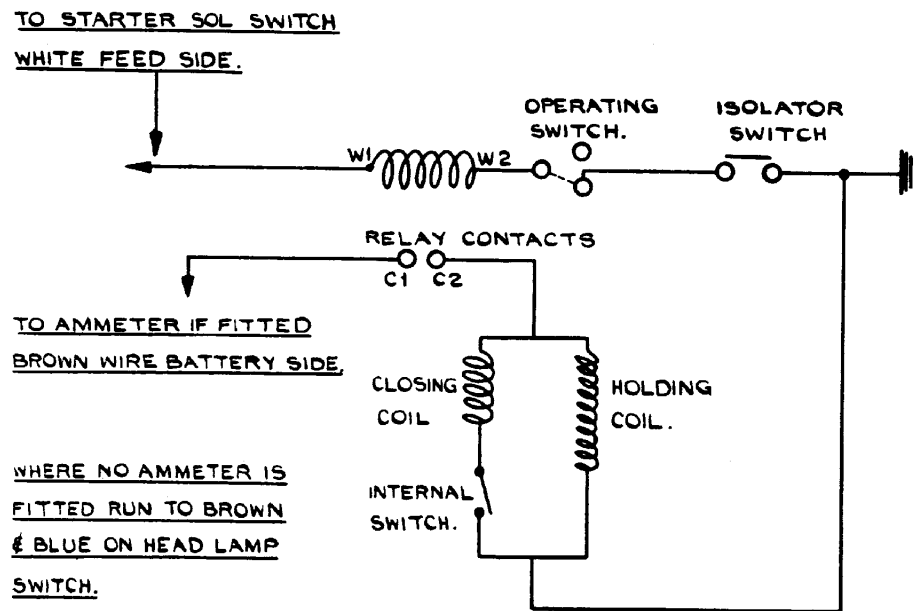

Fig. 5
(iv) Fault Locating. (See Fig. 5)
- (a) A dangerous condition can arise if that part of the circuit between "W2" (Fig. 5) on the relay to the non-earthed side of the isolator switch becomes accidentally earthed. Any earthing would bring in the overdrive on all gears including reverse.